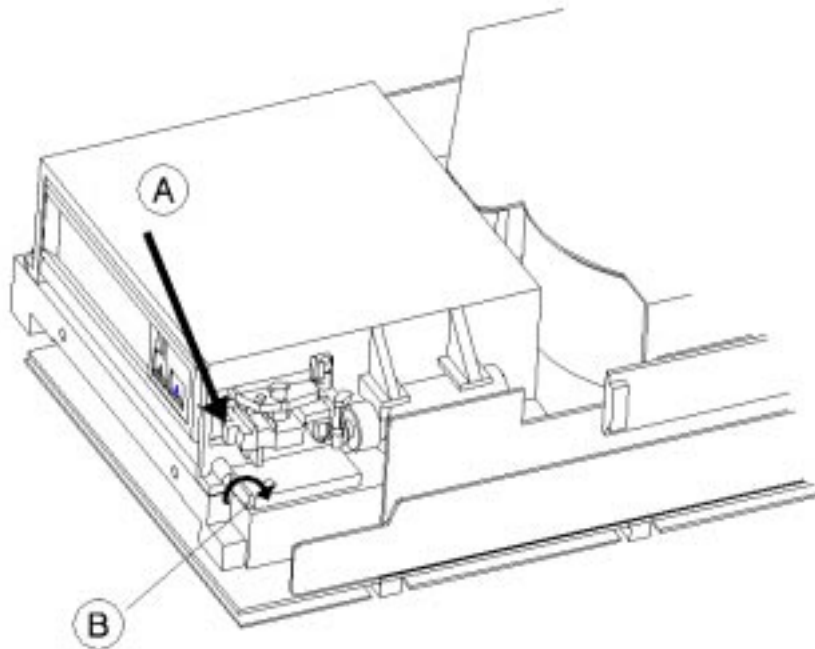

FIGURE 4-6 Ejecting the Tape
9. Pull out the solenoid mechanism while gently turning the D-shaft clockwise with pliers to eject the tape (FIGURE 4-6).